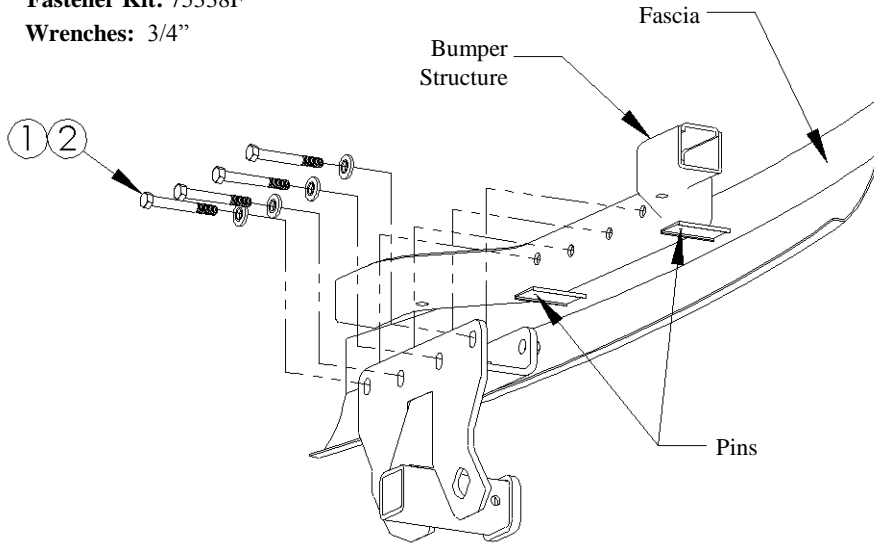

FIGURE 1
2. Remove two plastic pins that hold bumper fascia onto bumper structure as shown in Figure 1. (If OEM tow hook is present: Remove fascia, plastic bumper support and tow hook)
3. Gently pull fascia rearward about one inch and raise the hitch into position as shown in Figure 1.